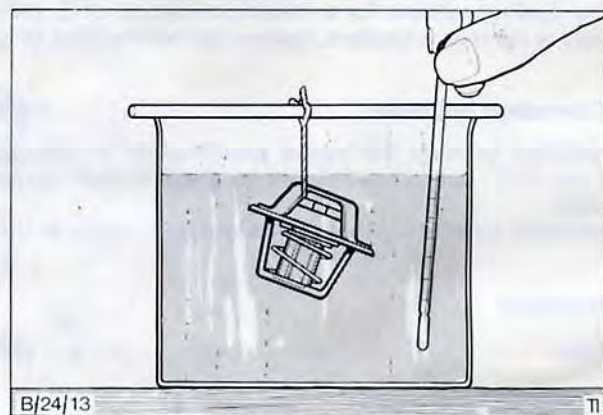

Fig. 40. Testing thermostat
1. Suspend thermostat in water in a suitable container so that it does not touch sides of container, Fig. 40.